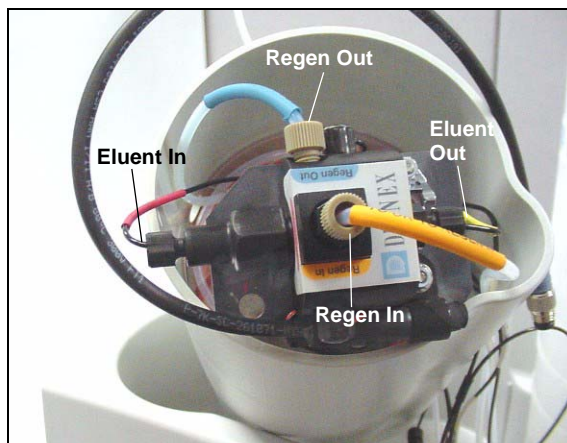

Figure 40. Plumbed CR-TC
4. With the CR-TC oriented as shown in Figure 40, connect each line to the corresponding port on the CR-TC.